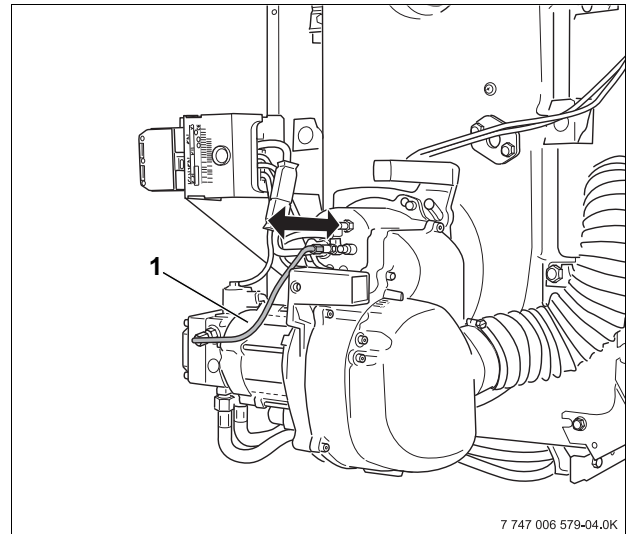

Fig. 28 Check that the mixing system is correctly installed
- Pull out the oil supply line (Fig. 28, **Item 1**) approx. 1/4".